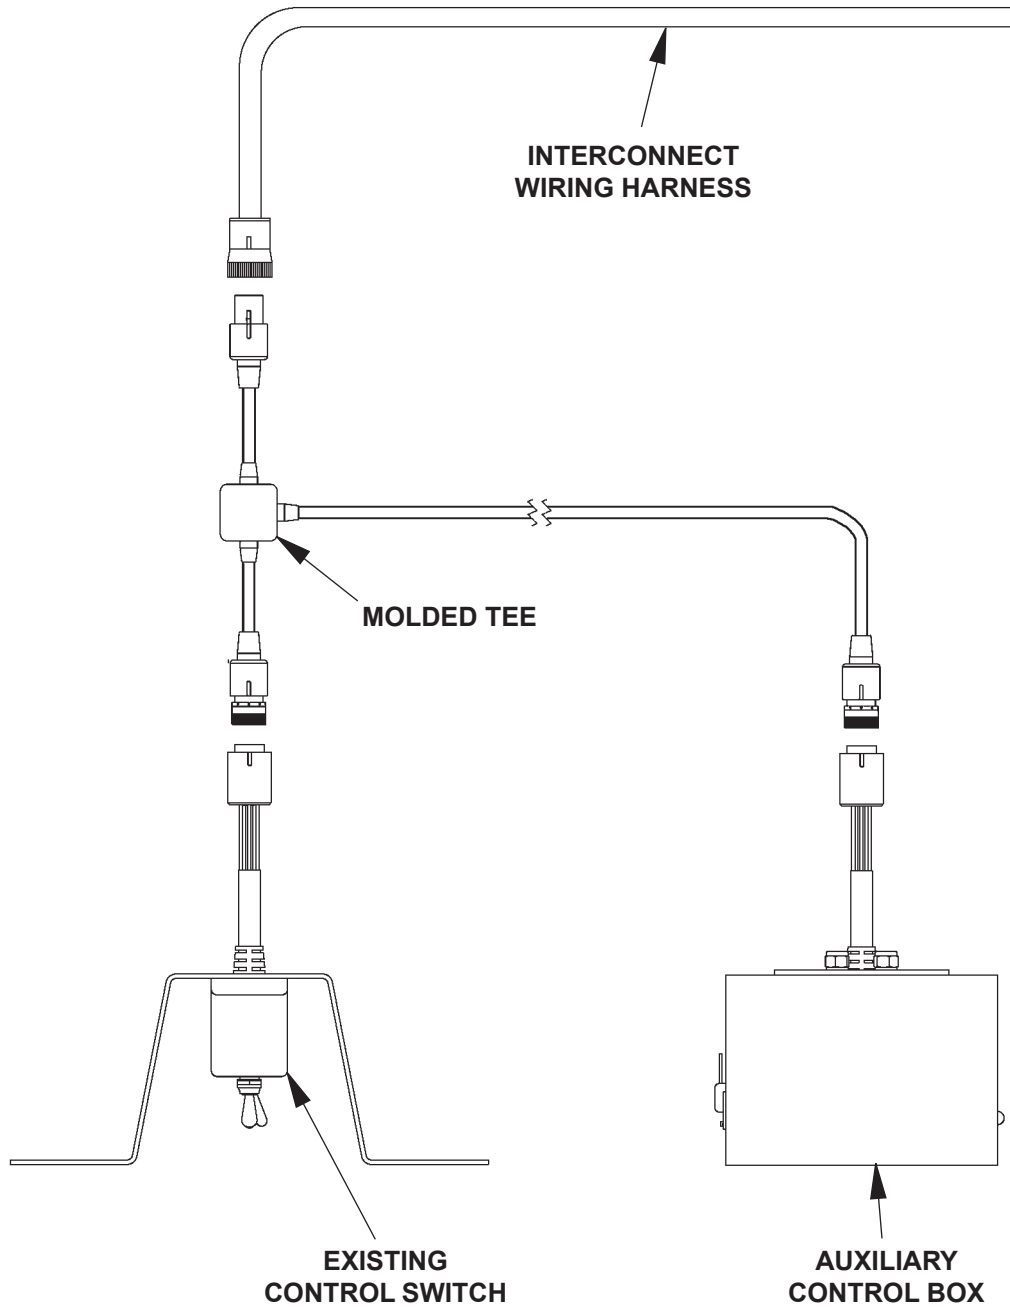

FIG. 6-1
4. Disconnect interconnect wiring harness from existing control switch (**FIG. 6-1**). Connect molded tee (Kit item) to interconnect wiring harness, auxiliary control box, and existing control switch as shown in **FIG. 6-1**.